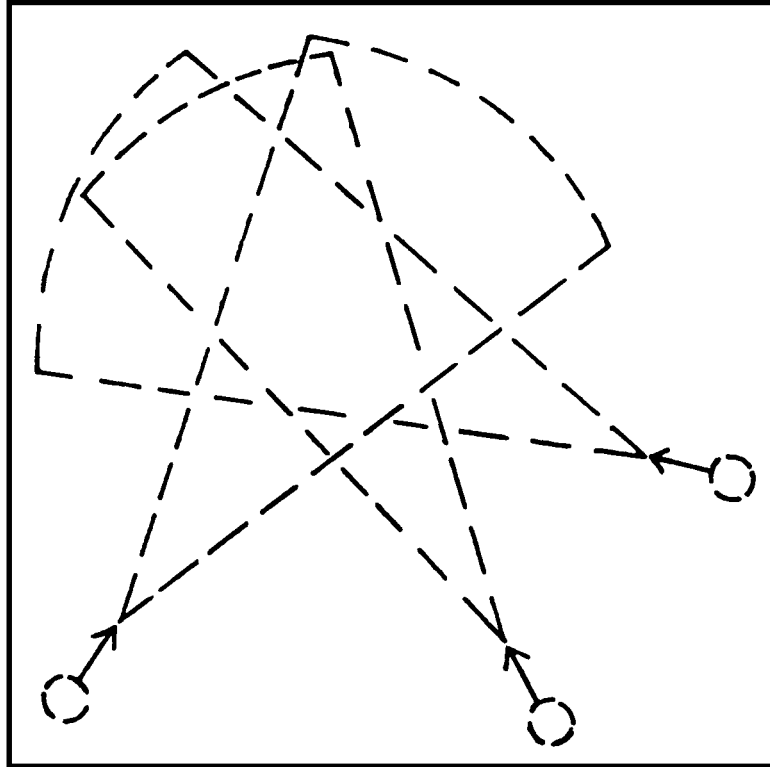

Figure A-19. Multiple firing points.
- (3) Live-fire missions, such as Engage an Area Target and Fire Final Protective Fire, can be easily performed with only one firing position for the 81-mm sabot. Tasks that require the mortars to displace can be trained and tested by setting up more than one impact area or by plotting multiple firing points (Figure A-19, page A-24).